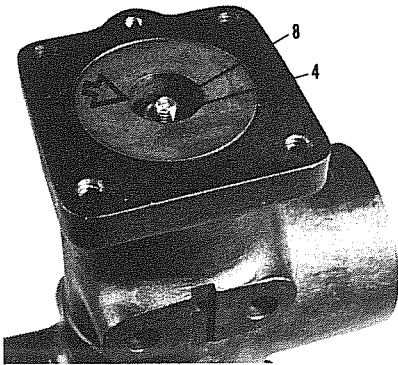

Figure 7-6, Installing lock washer and nut connecting rod. Note piston end is pushed flush to end of body.
sure end of the body. Install lock washer (4) and nut (5) onto connecting rod (8). See Figure 7-6. Remove drill from assembled body. Before closing the two ends of the body (16) with end caps (1 & 21), check movement of shuttle (12) by pushing piston (6) from flush position to full down into the body (16). With shuttle shifted to one position, the drilled holes in the sleeve should not be blocked by the seals in the shuttle nor when the shuttle is shifted to the opposite position. If holes are misaligned, recheck thread adjustment procedure above.